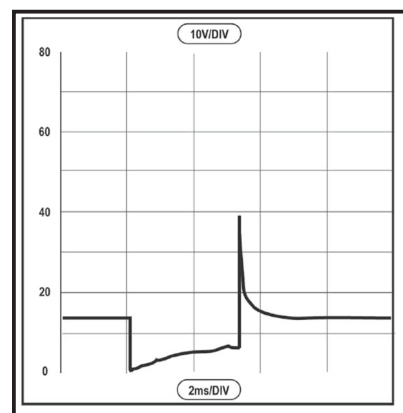

FIGURE 2
4. Two technicians are discussing the injector waveform shown in Figure 2. Technician A says that the waveform is typical of a peak and hold injector. Technician B says that the rise in control circuit voltage is normal. Who is right?